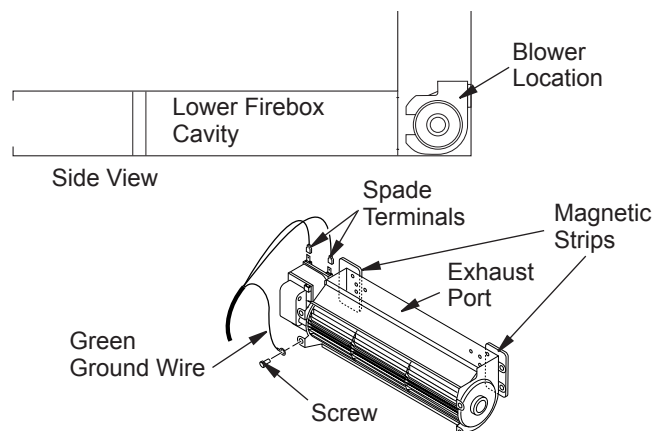

Figure 25 - Blower Model BK
1. Attach the power cord to the blower motor by firmly pushing the two female terminals at the end of the power cord onto the two spade terminals on the blower motor (see Figure 25).
2. Attach green ground wire from power cord to blower housing using screw provided (see Figure 25). Tighten screws securely.
3. Place the blower against the lower rear wall of the firebox outer wrapper with the exhaust port directed upward. The blower will fit inside the back opening and be held in position against the back wall by the magnets (see Figure 25, page 14).